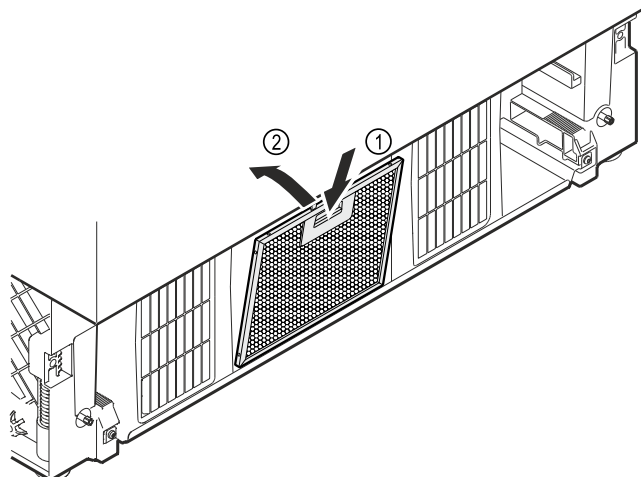

Fig. 24 Example illustration
- Press the button on the dust filter downwards Fig. 24 (1) and at the same time tilt the dust filter backwards and insert it Fig. 24 (2).